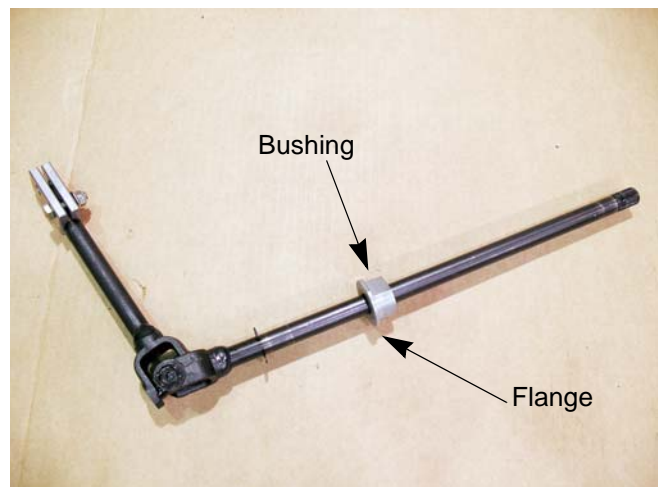

Figure 6.105
4. Slide a bushing onto the long end of the steering shaft. See Figure 6.105.